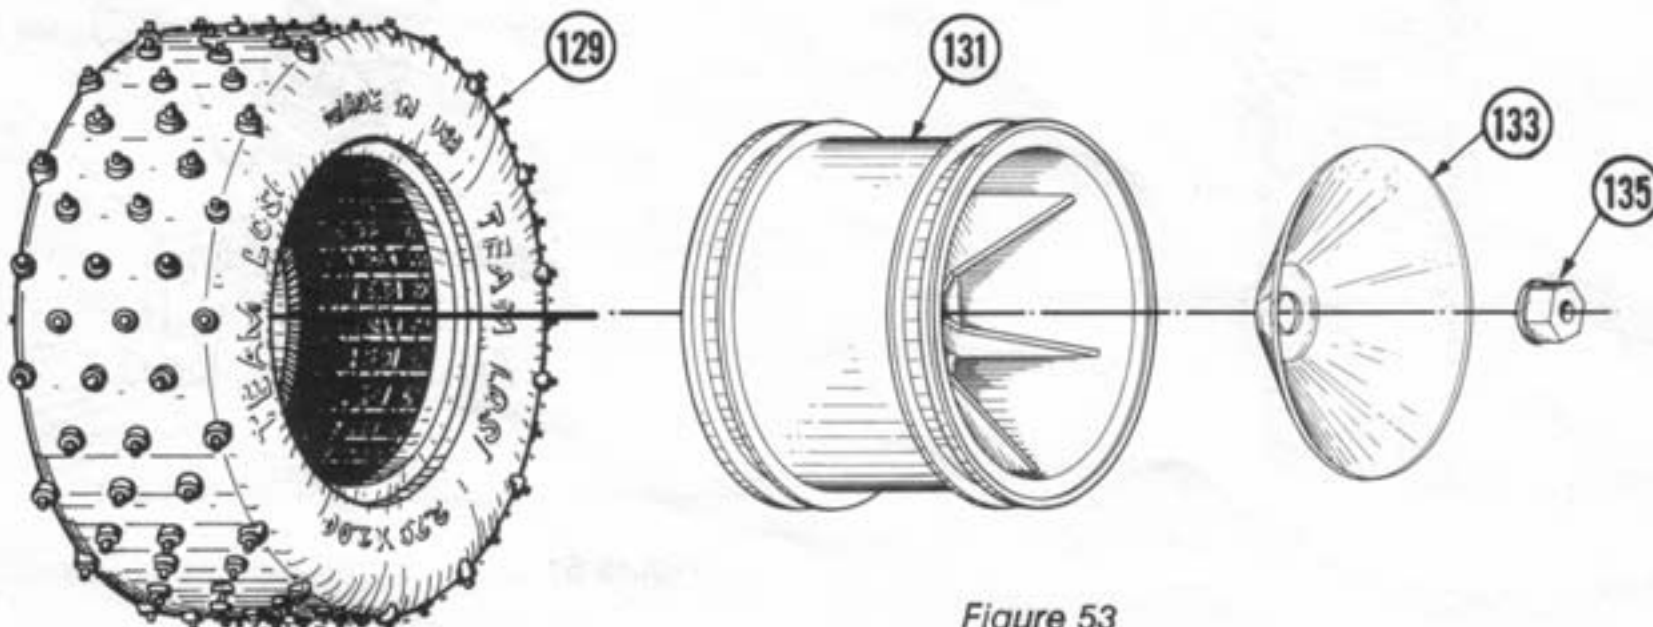

Figure 53
6. Repeat step 2 for rear tires (129) and rear wheels (131). Fig. 53
7. Insert rear wheel disks (133) into outside of rear wheels (131). Fig. 53
* *Note: Rear wheel disks (133) will be held in place with 10-32 nylon nuts (135).*